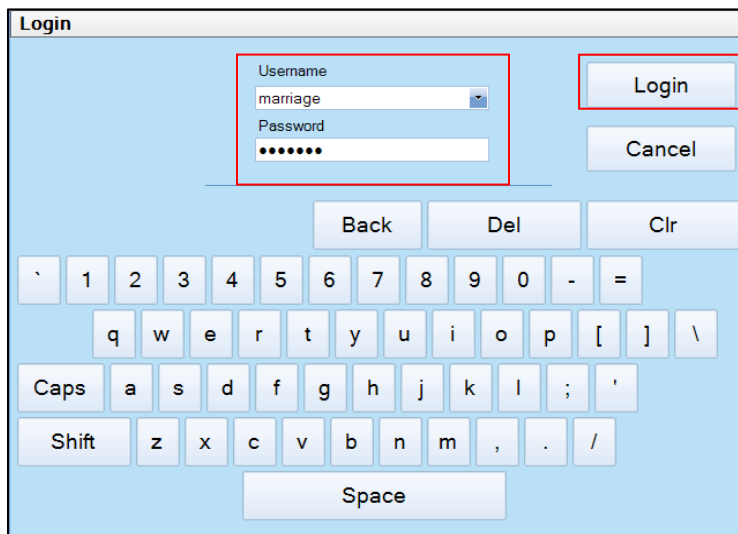

Figure 23: Marriage account login
3. Enter Username as **[marriage]** and its password and click **[Login]** button (as shown in **Figure 23**).